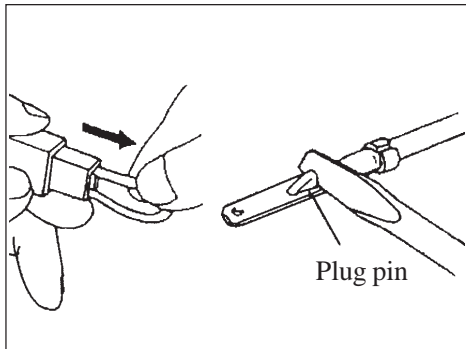

Fig.7.5
b. If joint is slack, bend the plug pin upward, then connect with connector plug(see fig7.5)